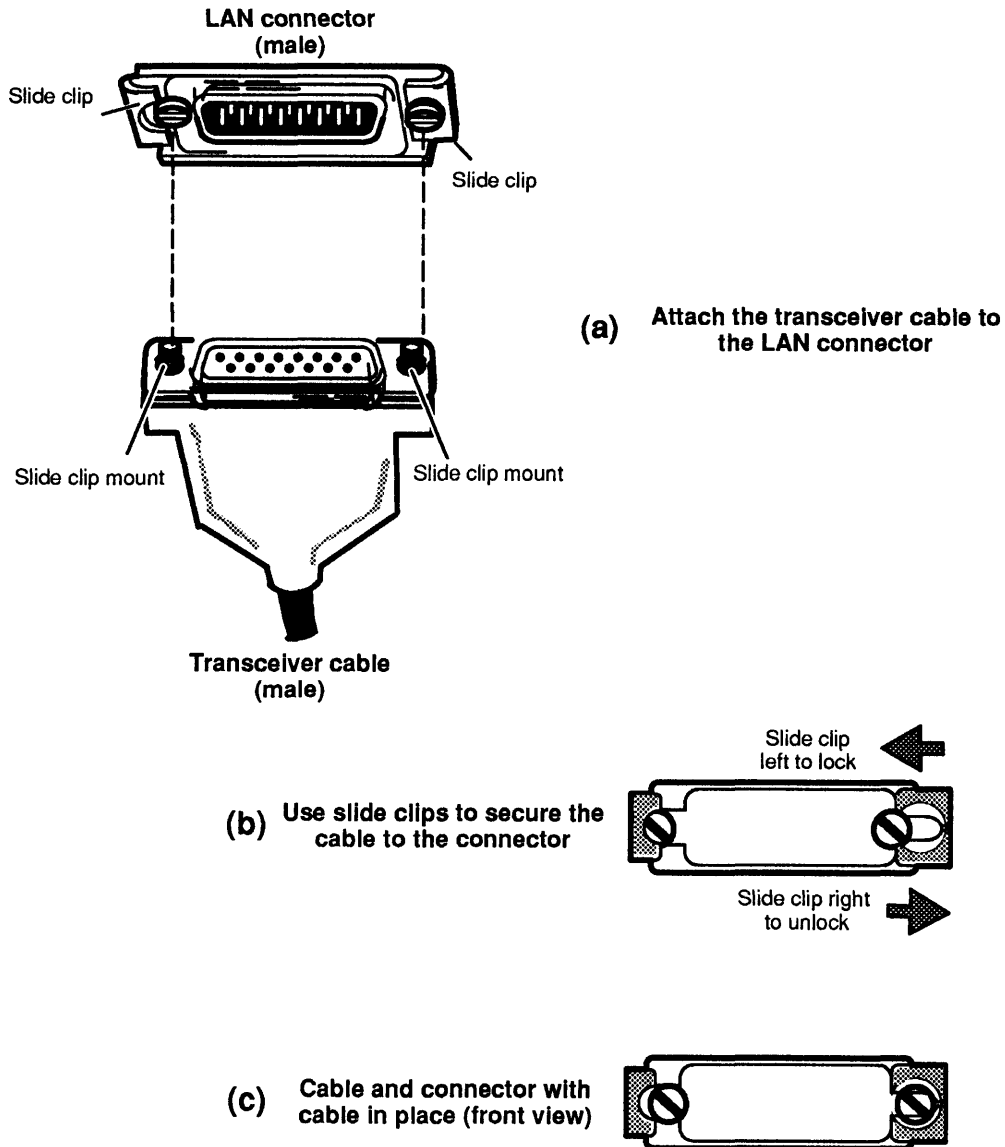

Figure 2–10 Attaching and Securing the LAN Transceiver Cable
2. As shown in Figure 2–10 (a), line up the slide clip on the computer unit connector so that the slide clip mounts on the cable can pass through; then push the cable firmly into the connector.
3. Once the cable and clip mounts are secured to the connector, slide the clip using your screwdriver or a comparable tool to lock the cable in place, as shown in Figure 2–10 (b). Figure 2–10(c) illustrates the cable and connector in place.